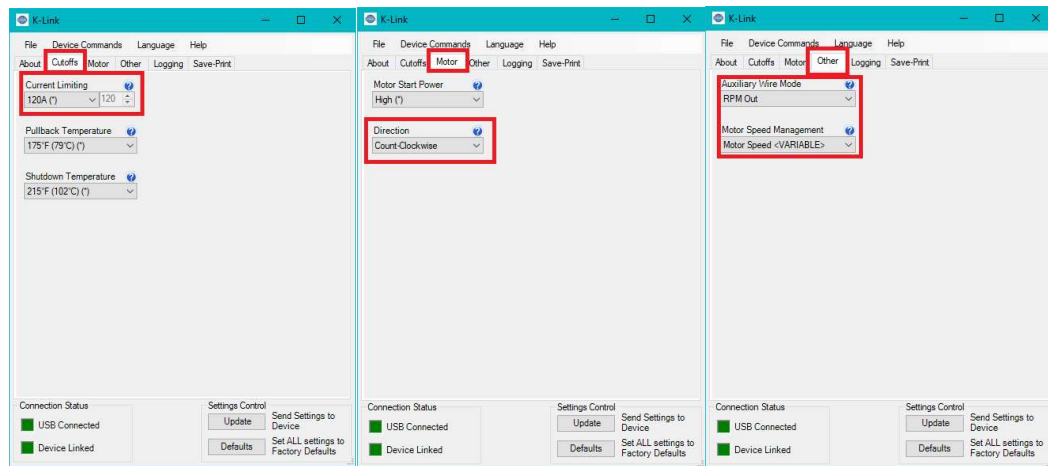

Figure 8: Software Interface Screens
- Figure 8 displays the most commonly modified settings and which tabs they are located on. Contact Kawak Customer Support for information before modifying any of the optional settings.
The below table describes the commonly modified parameters from Figure 8: